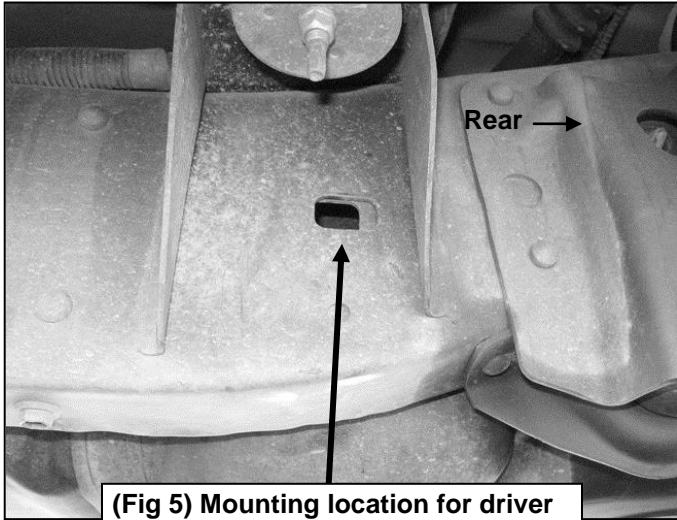

Fig 4
3. Select the 1/2" x 15" Long Bolt Plate, **(Figure 3B)**. **NOTE:** Use the Long Bolt Plate for driver side installation and the Short Bolt Plate for passenger side front bracket installation. From the back of the frame, insert the bolt plate into the open end of the boxed frame, **(Figure 2)**, and up to and out of the rectangular opening in the outside of the frame, **(Figure 3A)**. Line up the top hole in the driver front Mounting Bracket with the Bolt Plate. Attach the Bracket to the Bolt Plate with (1) 1/2" Flat Washer, (1) 1/2" Lock Washer and (1) 1/2" Hex Nut, **(Figure 4)**. Hand-tighten only at this time.